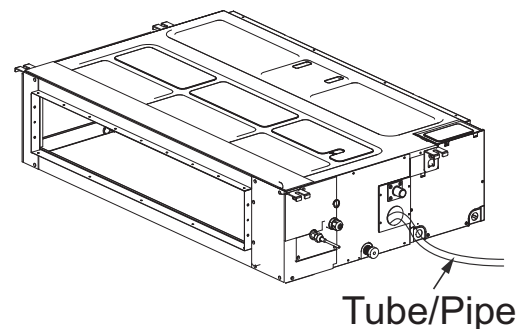

Fig. 28 —Tube/Pipe Insert
2. Use a piece of tubing or pipe to fill the drain pump reservoir with 70 oz. of water as shown in Fig. 28 below.